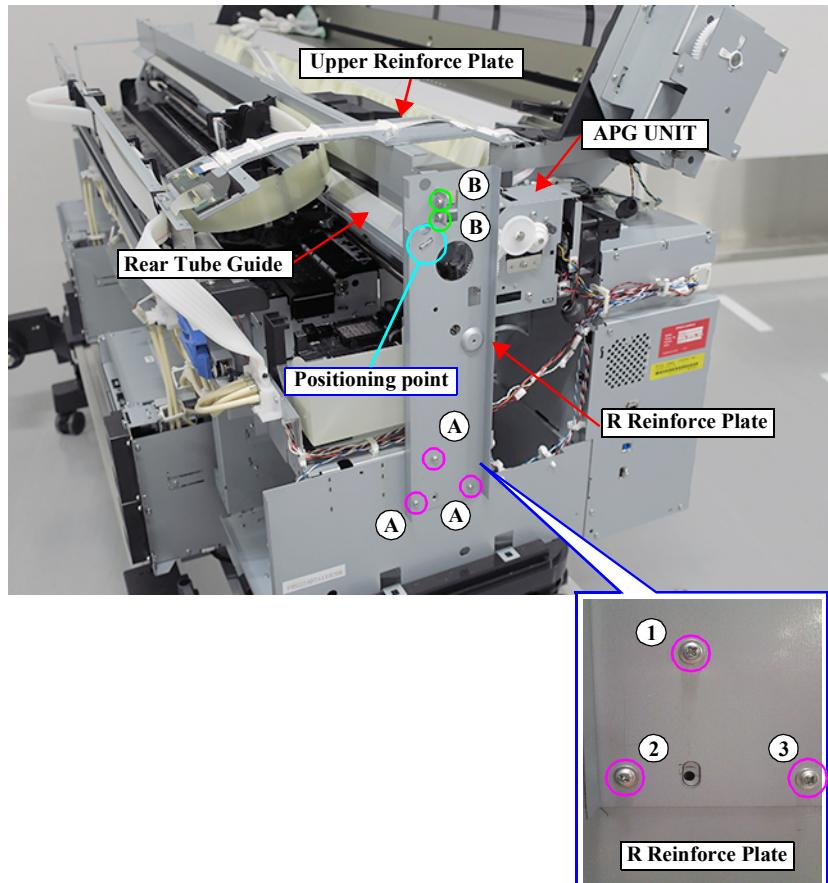

Figure 3-117. Removing the R Reinforce Plate
- Pay attention to the positioning point (See Figure 3-117).
- 1.Temporarily tighten screw (1) in Figure 3-117.
- 2.Tighten screws (2) and (3) in order.
- 3.Tighten screw (1) fully.